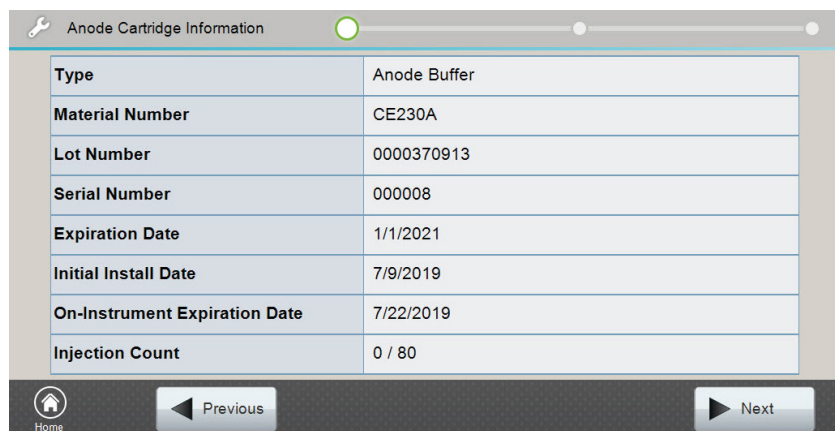

Figure 17. 'Anode Cartridge Information' screen.
4. Use the Barcode Scanner connected to the Spectrum CE Compact System to read the barcode label on the Spectrum Compact ABC. Information about the Spectrum Compact ABC being installed is displayed on the 'Anode Cartridge Information' screen (Figure 17).